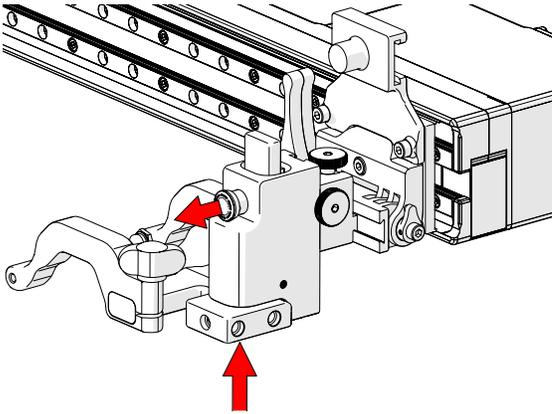
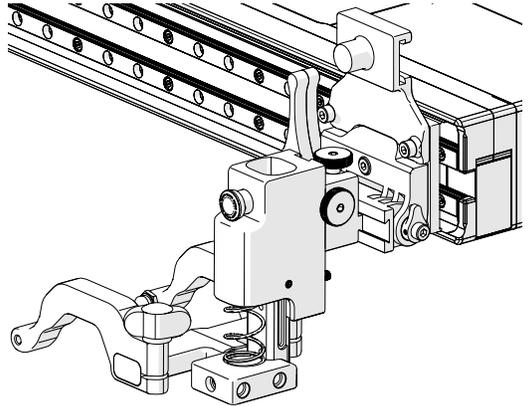

Fig. 112 - Press up and pull latch
Fig. 113 - Lowered toward scan surface
1. Gently lift the heavy duty vertical probe holder and simultaneously pull the latch (*Fig. 112*). This action will unlock the probe holder. Slowly lower the probe holder towards the scan surface (*Fig. 113*).